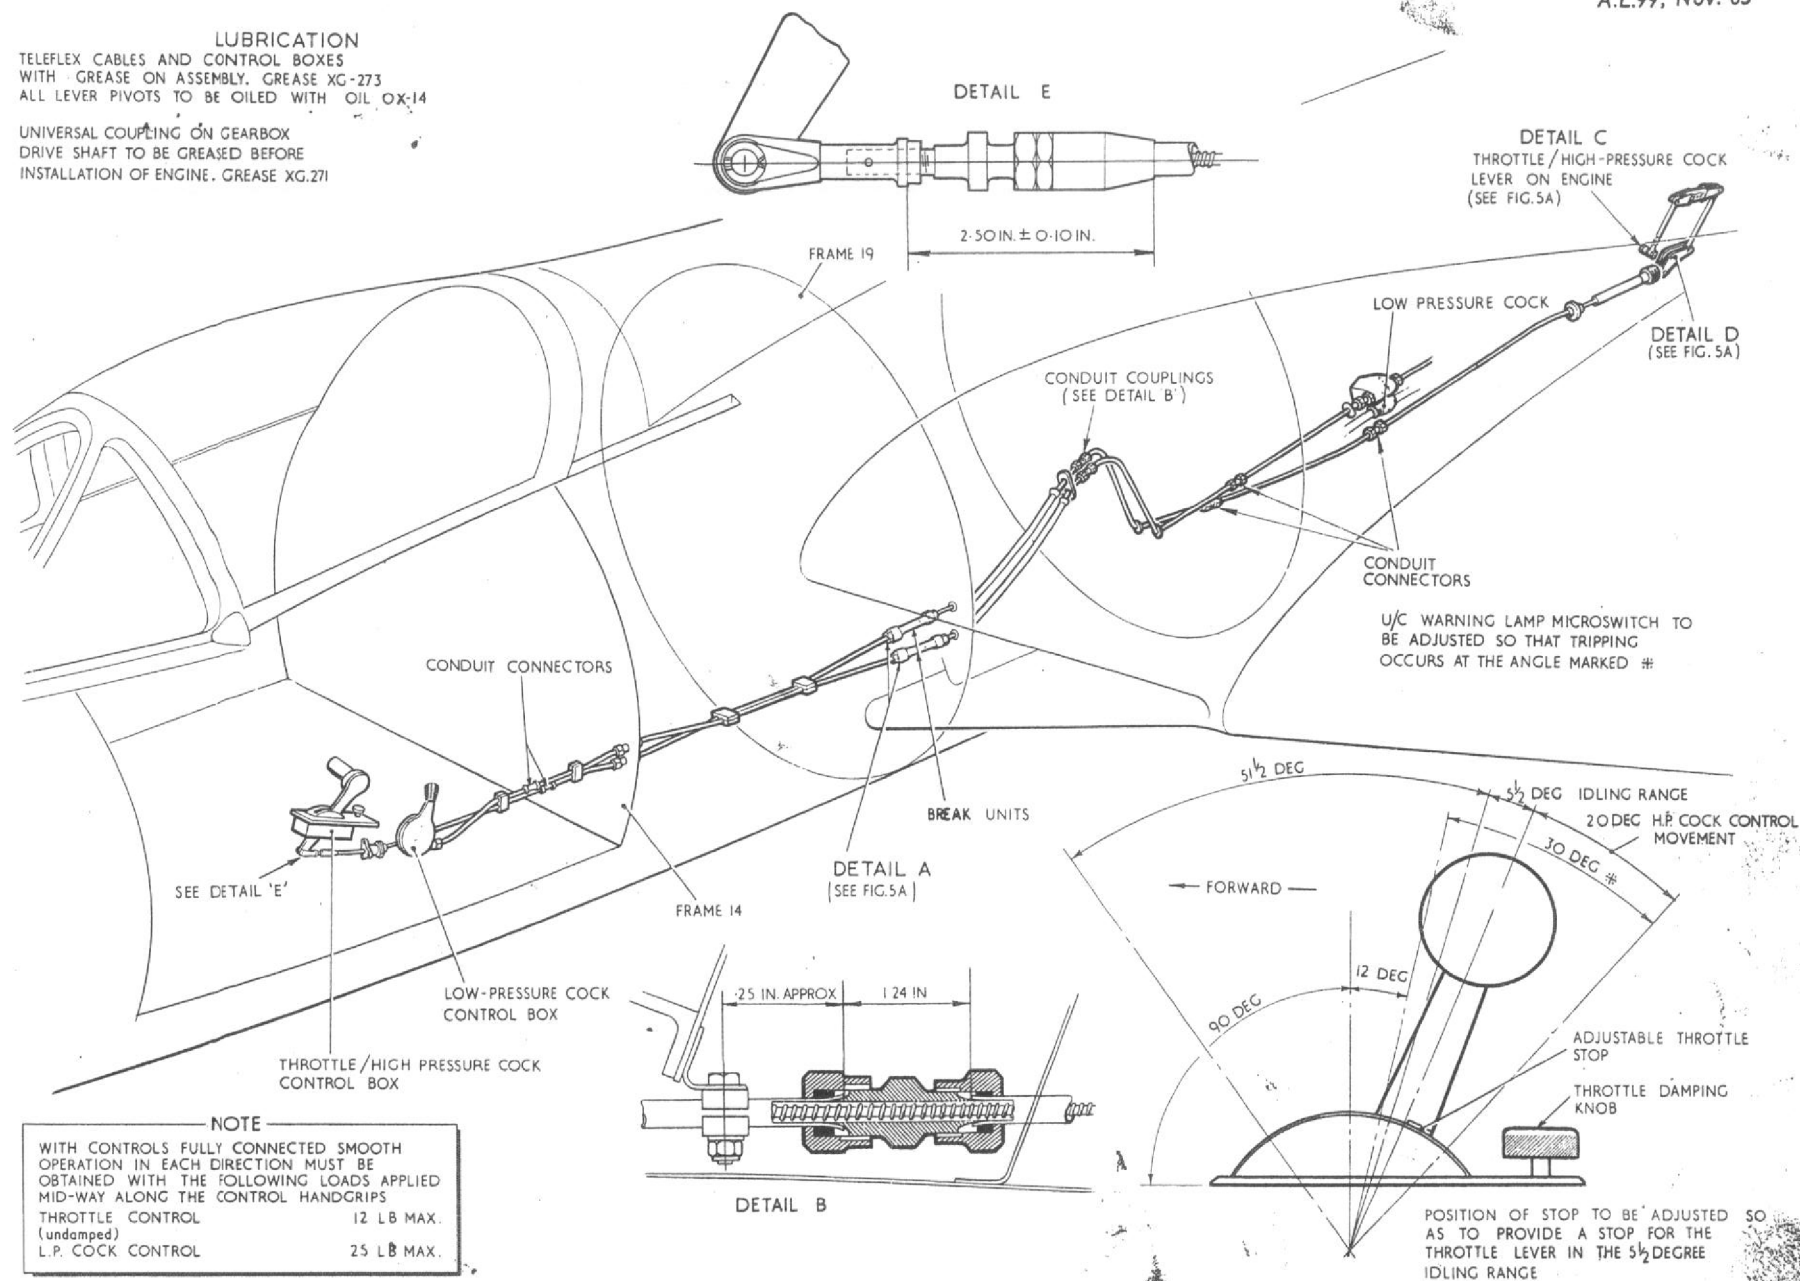

Fig 5 Engine Controls (1)
Engine controls (fig. 5 and 5A)
12. The combined throttle and high-pressure cock and the low-pressure cock should be checked to ensure that they come up against their stops before the system is strained. In no circumstances should the throttle and high-pressure cock stops on the engine be interfered with in any way, as these have been set in the correct position by the engine manufacturers. Control settings are given in fig. 5 and 5A.
15. Oil specifications and capacities for the engine, accessories gearbox and turret drive arm are listed in the Leading Particulars at the front of this volume. The units should be checked for oil level before flight and topped up as necessary (Sect.2, Chap.2). Lubrication of the engine controls is detailed in fig.5. The gearbox universal drive shaft couplings should be lubricated as described in para. 25.